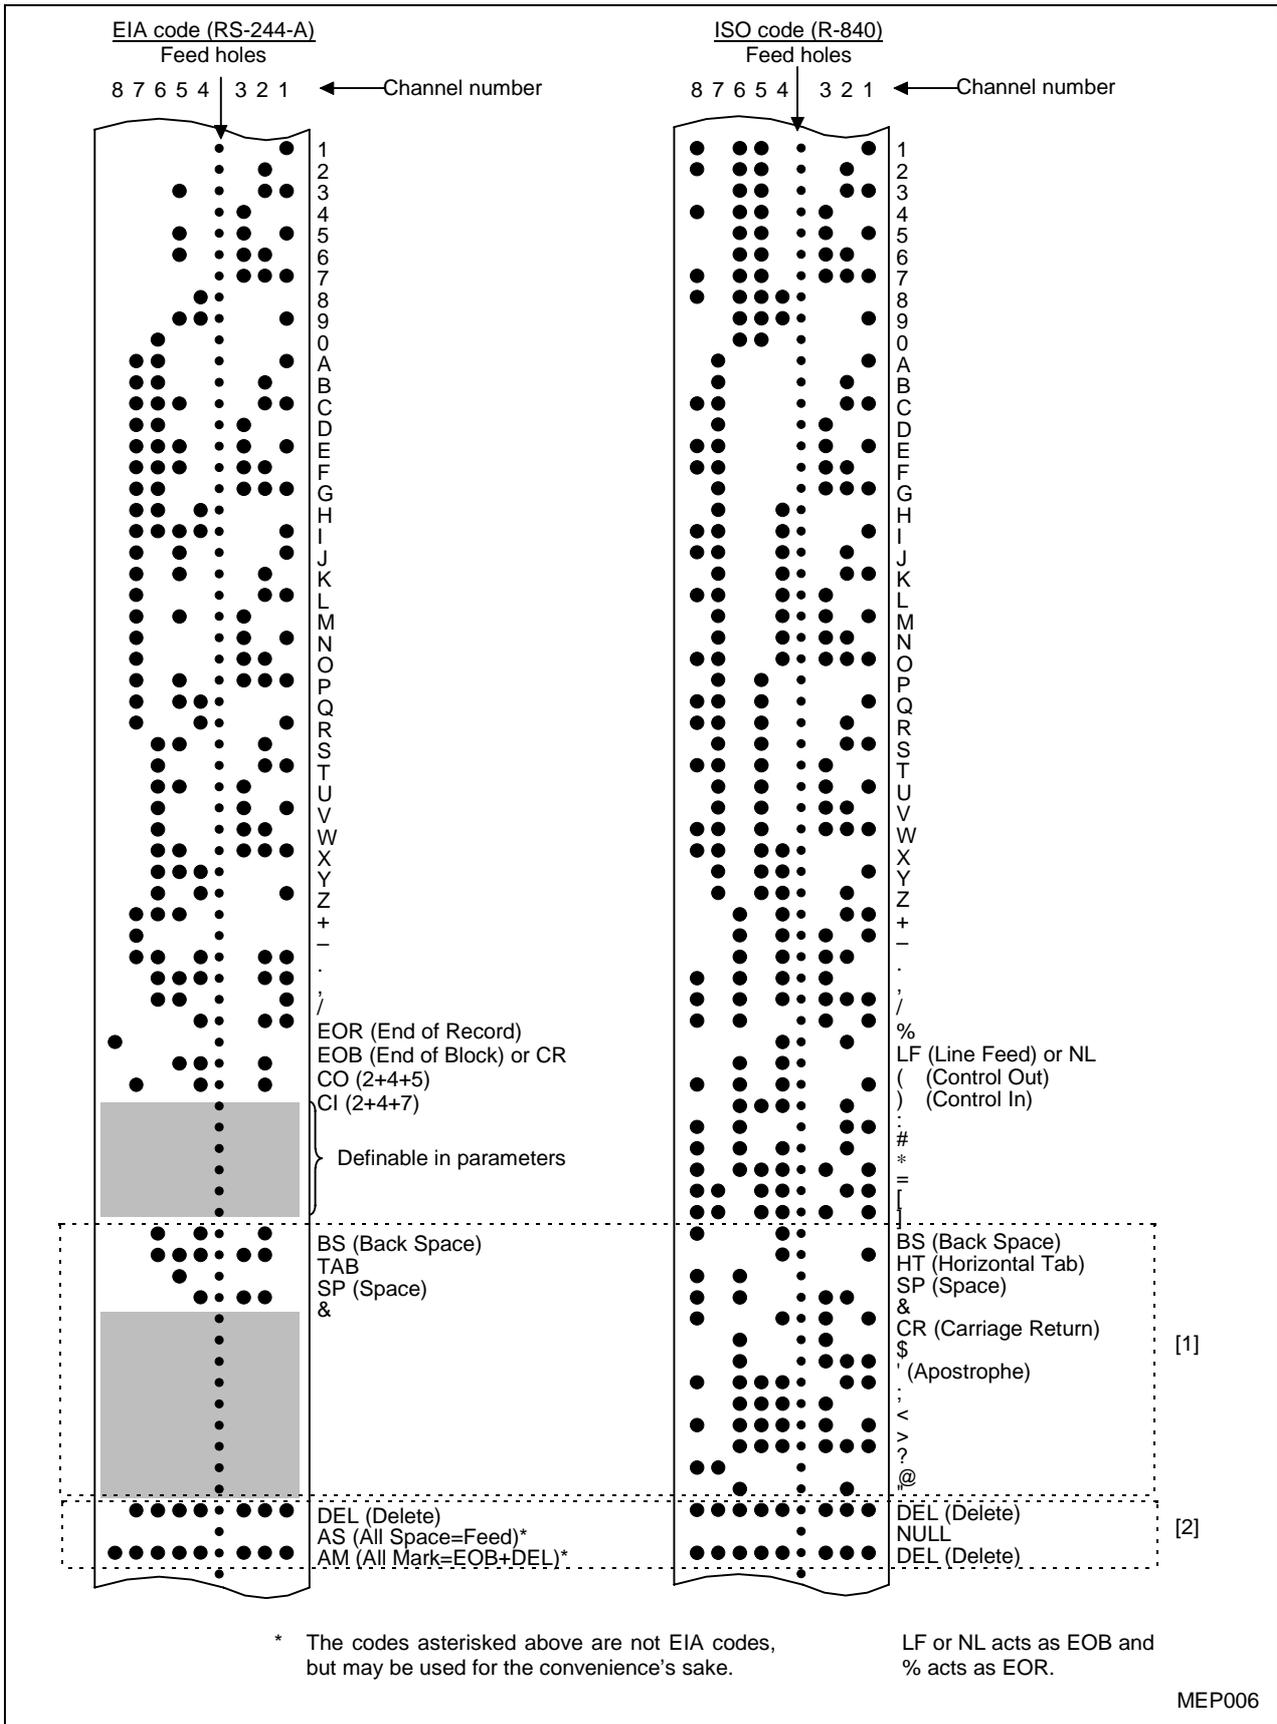

Fig. 3-1 List of tape code
**Note 1:** Codes not included in the tape codes shown in Fig.3-1 will result in an error when they are read.
**Note 1:** During parity-V check, some types of code in a tape are not counted as characters. Refer to Fig. 3-1 "Tape codes" for further details.